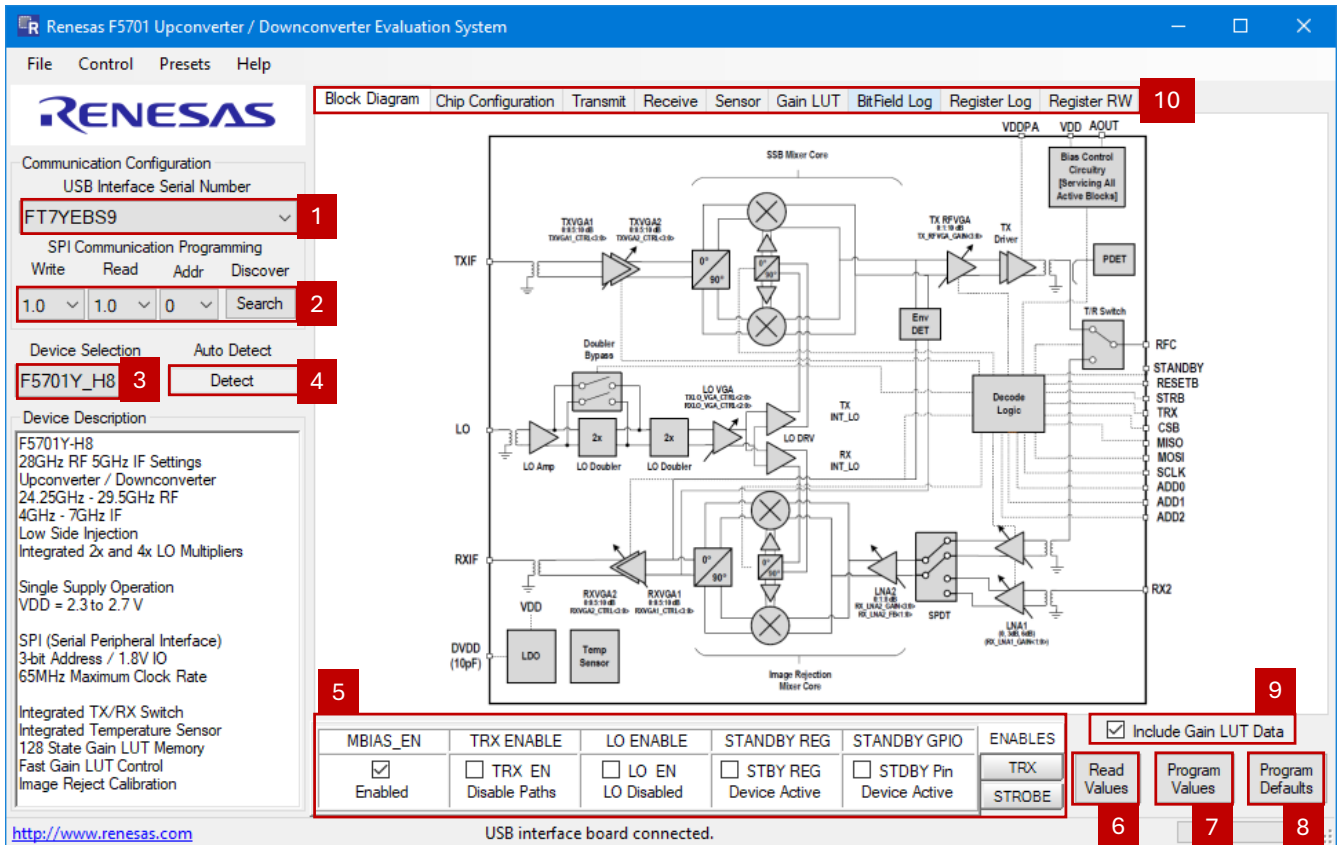
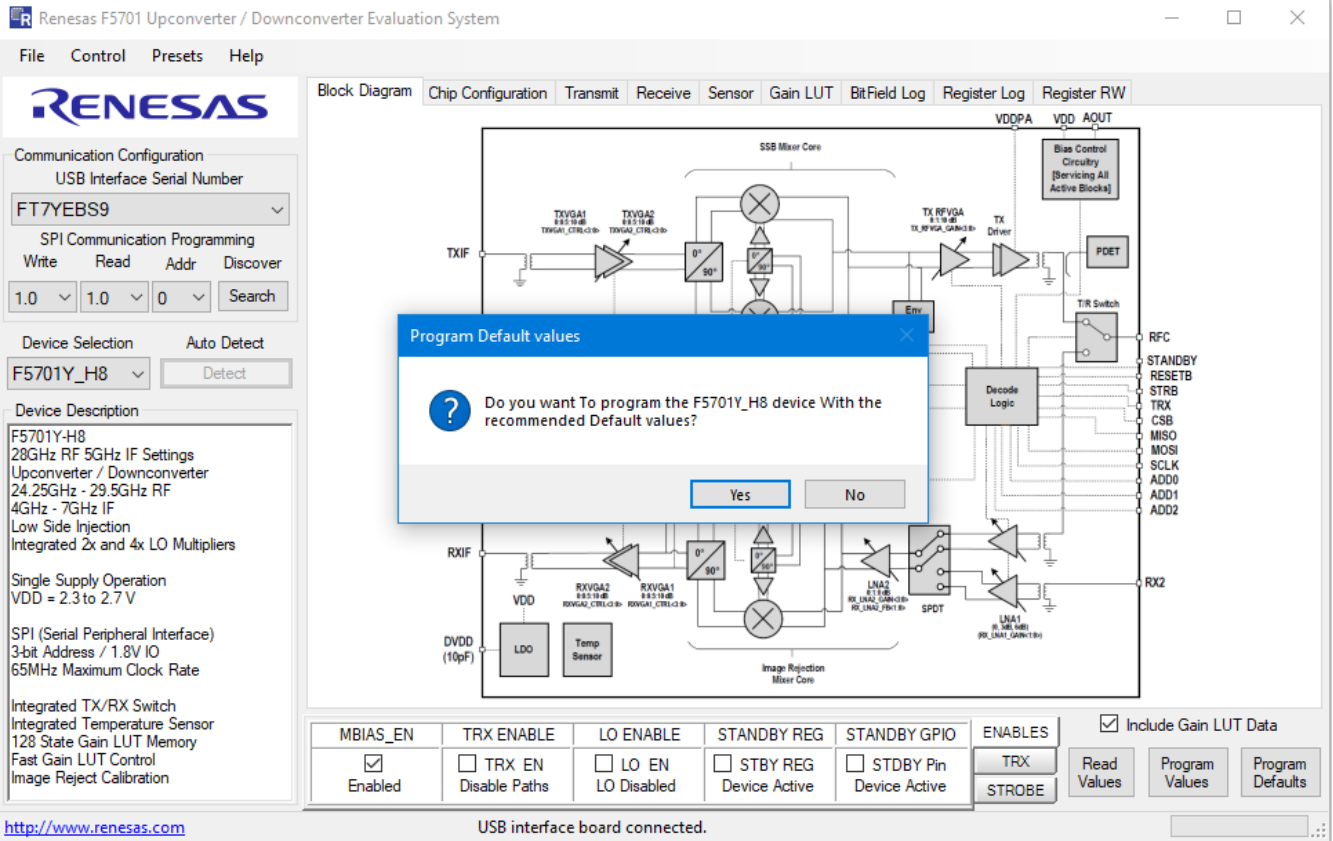
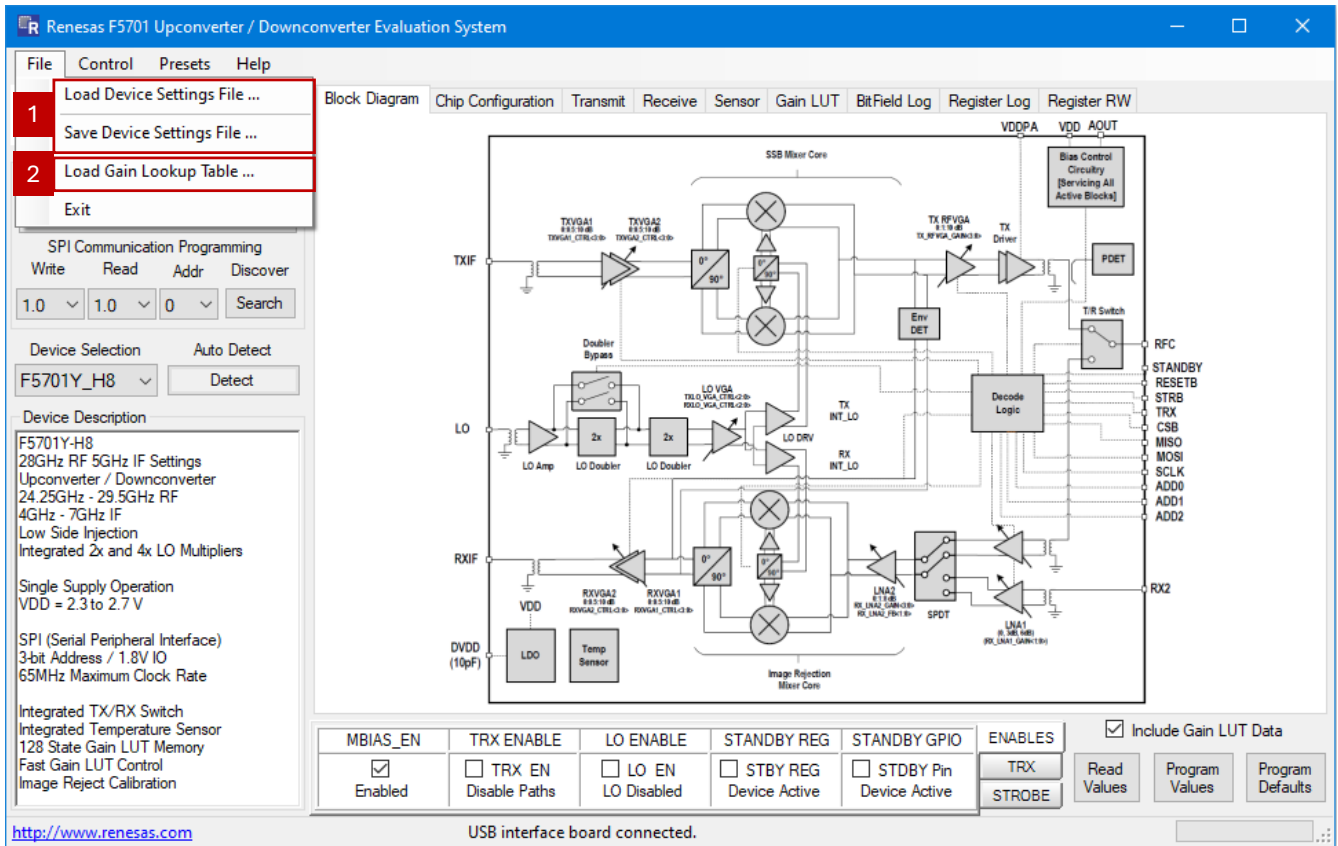
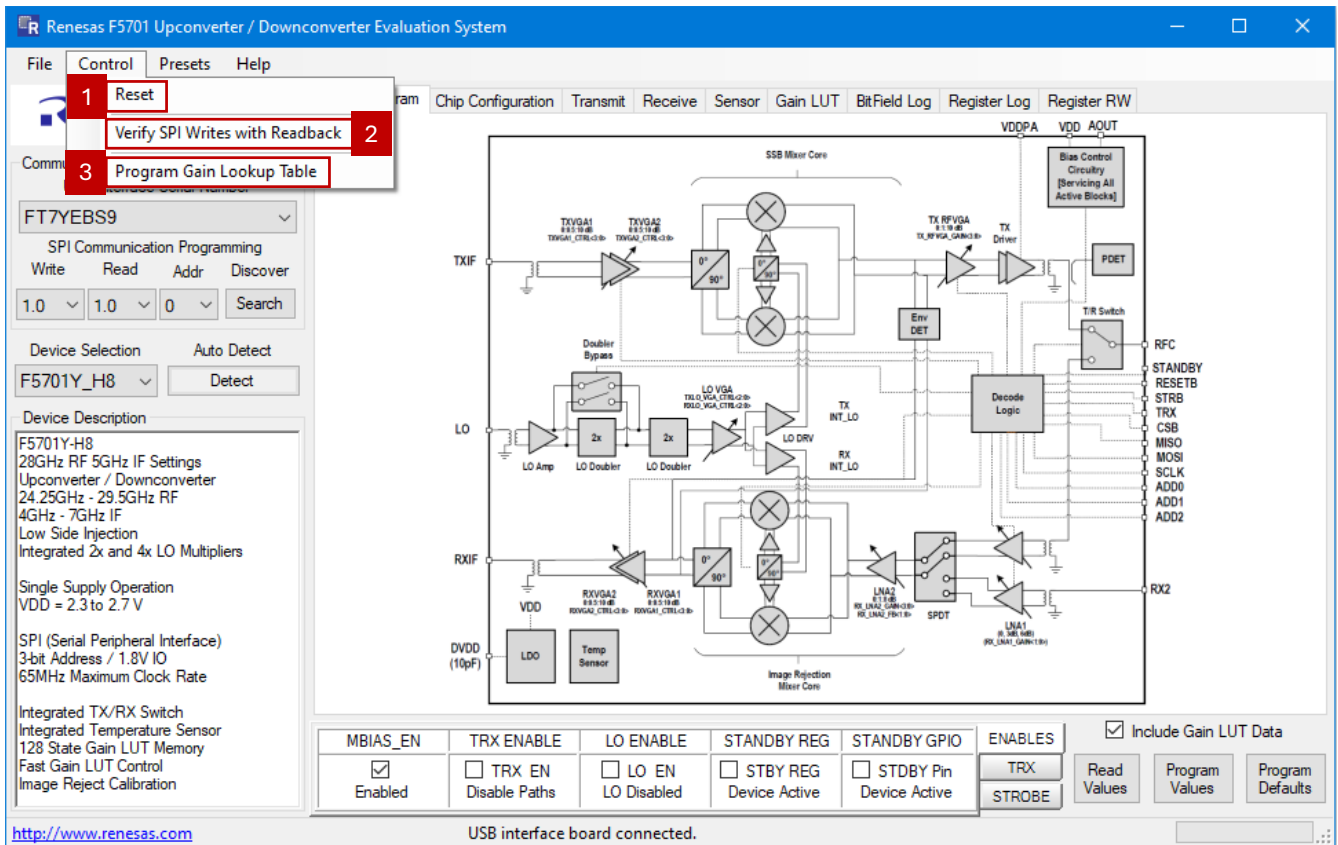

Figure 5. Application Control Panel at Start-up
Figure 6. Pop-up Window to Program Default Values
Figure 8. File Menu
Figure 9. Control Menu
1. Open the application through the Windows Start menu or click on the application icon if saved on the desktop. The application appears as shown in Figure 5. The USB Interface Serial Number (Figure 5, item 1) should be auto-detected if the FT2232HL digital interface board is connected and recognized.
2. Select write speed, read speed, and chip address (Figure 5, item 2), then select **Detect** (Figure 5, item 4) to start the communication with the device. The **Device Selection** drop-down menu (Figure 5, item 3) is automatically selected with the correct device variant (ZL or Y). A subsequent pop-up window will ask if the user would like to program the device with the recommended default values (Figure 6). Click *Yes* to program the default values or click *No* to reset the device.
3. For each device variant, there are five recommended settings to choose from: H8 (5GHz IF / 28GHz RF), H6 (5GHz IF / 26GHz RF), H6H (5GHz IF / 26GHz RF, high linearity), L8 (3GHz IF / 28GHz RF), and L6 (3GHz IF / 26GHz RF). By default, H8 is initially selected and programmed. To program the device to other settings, use the **Device Selection** drop-down menu (Figure 5, item 3) and follow the pop-up window.
4. Users can also program the device with the recommended default values at any time afterward by clicking the *Program Defaults* button (Figure 5, item 8). After the programming, the GUI settings will be in sync with the hardware settings and the device can be controlled in real time.
- Users can quickly enable/disable the master bias, enable/disable signal paths, set the device standby mode, switch between transmit and receive modes, and control the strobe pin by using the high-level chip control checkboxes at the bottom of the main panel (Figure 5, item 5).
- To read all bitfield and register values at any given time, click the *Read Values* button (Figure 5, item 6) and the results will be displayed on both **BitField Log** and **Register Log** panels. To view the results, click on either **BitField Log** or **Register Log** panel tabs (Figure 5, item 10).
7. The File menu shown in Figure 8 provides options to load or save device settings (Figure 8, item 1). Device bitfield settings can be saved to an XML file and loaded back to the software at any given time. To use a Gain Lookup Table (LUT), **Load Gain Lookup Table** (Figure 8, item 2) to load a gain LUT file, then select **Program Gain Lookup Table** (Figure 9, item 3) in the Control menu to program it to the device.
*Note:* To use gain LUT, the **Include Gain LUT Data** checkbox (Figure 5, item 9) must be checked. The Control menu also allows users to reset the device (Figure 9, item 1). The software will read back the written register after every SPI write command if item 2 in Figure 9 is selected.
- The main configuration control panel can be seen by clicking on the **Chip Configuration** panel tab (Figure 5, item 10). Users can select the corresponding subpanel tab to read chip information (Figure 11), set general device configuration (Figure 12), set/enable master bias (Figure 13), and test the SRAM (Figure 14).